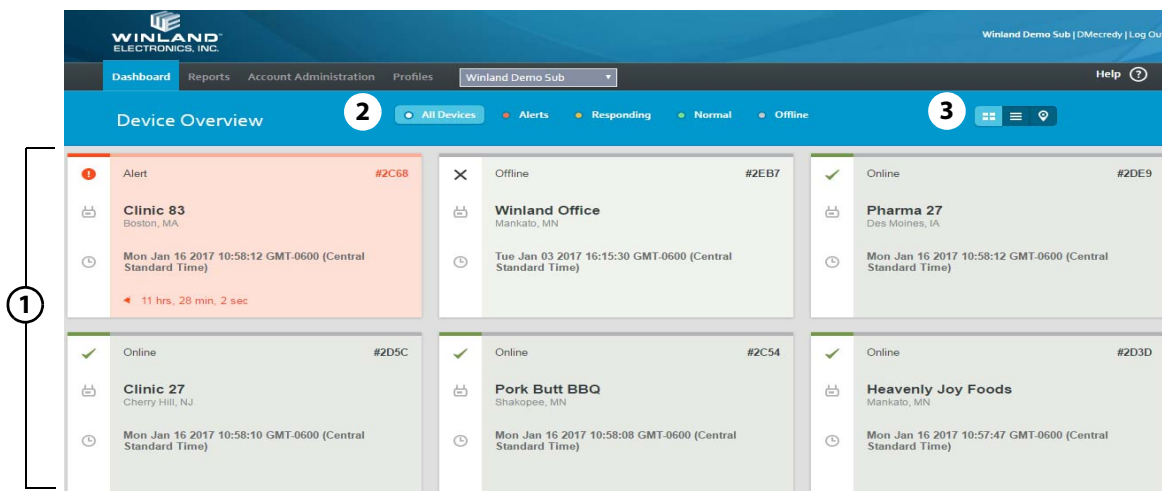

Figure 3-1. Dashboard—Device Overview
To view the dashboard, click the **Dashboard** tab, as shown in Figure 3-1. In this example, there are six tiles ①, each representing a different EA800-ip device. Opposite the Device Overview banner, there are several filter radio buttons ② and three dashboard view buttons ③ from which to choose.